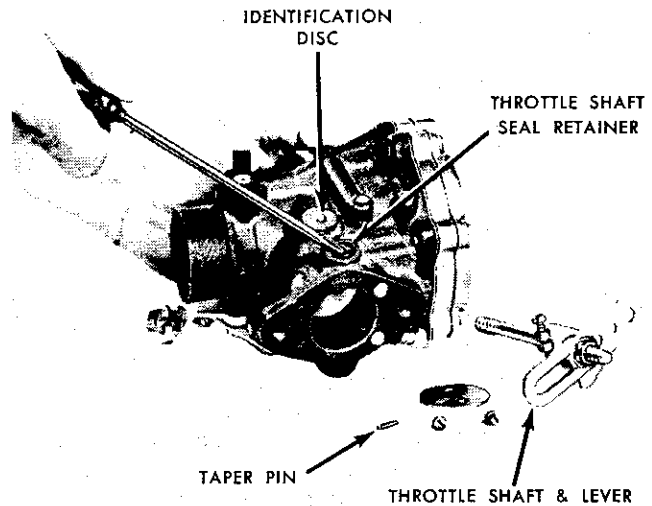

FIG. 4
3. Remove throttle shaft seal retainer and seal, as illustrated in Fig. 4.